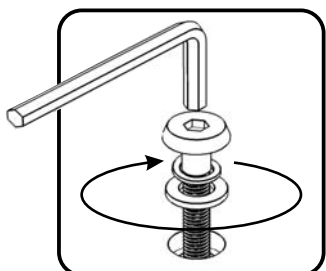

Figure 1
Attach Side Panel (E) to unit with Flat Washers, Spring Washers and Head Cap Bolts. (See Figure 1)